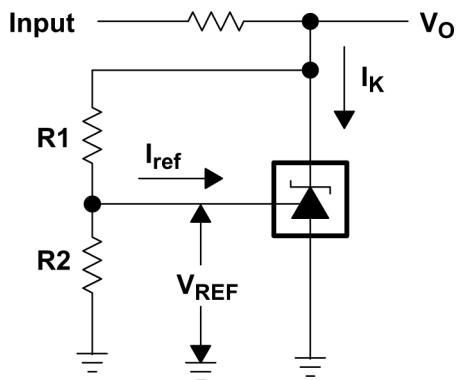

Figure 6-2. Test Circuit for  $v_{KA} > V_{REF}$ ,  $V_O = V_{KA} = V_{REF} \times (1 + R1/R2) + I_{ref} \times R1$
(3) The dynamic impedance is defined as  $|z_{KA}| = \frac{\Delta V_{KA}}{\Delta I_K}$ . When the device is operating with two external resistors (see Figure 6-2), the
(3) Full temperature ranges are -40°C to 125°C for TLV431Q, -40°C to 85°C for TLV431I, and 0°C to 70°C for TLV431C.
(4) dynamic impedance is defined as  $|z_{KA}| = \frac{\Delta V_{KA}}{\Delta I_K}$ . When the device is operating with two external resistors (see Figure 6-2), the total dynamic impedance of the circuit is defined as:  $|z_{KA}|' = \frac{\Delta V}{\Delta I} \approx |z_{KA}| \times \left( 1 + \frac{R_1}{R_2} \right)$